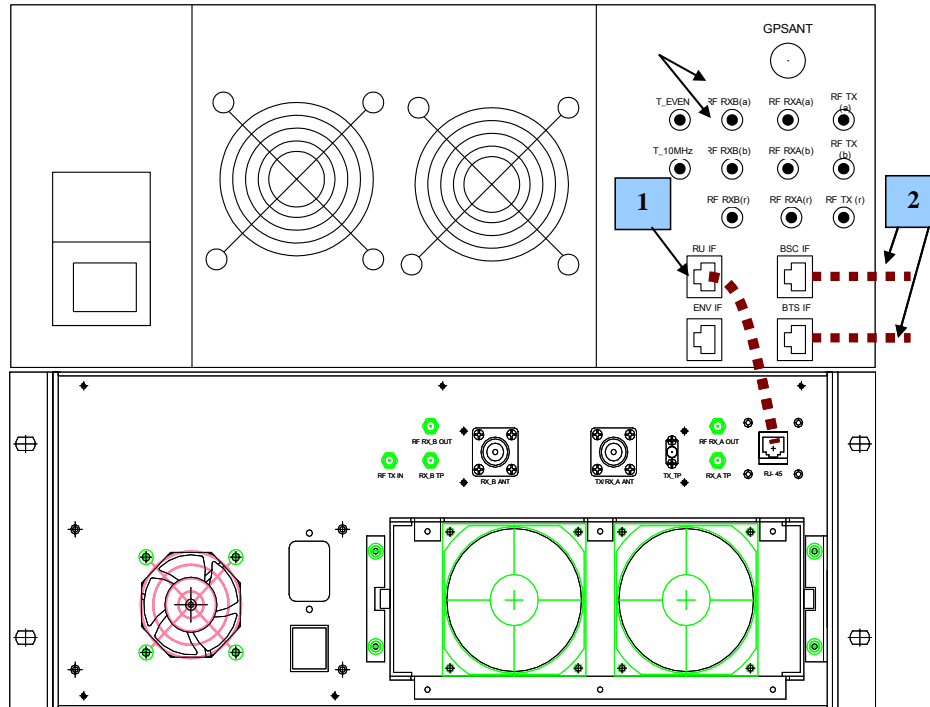

Figure 6-4 Ethernet Cable Wiring
Connect Integrated Omni RU to AW-96 using supplied Ethernet cable as shown in Figure 6-4 (1). Connect external Ethernet connections to the BTS and BSC Ethernet ports on the AW-96 (2).